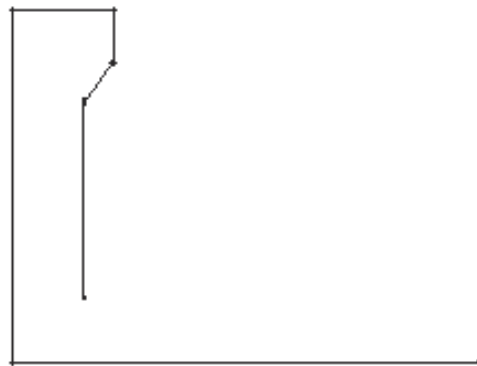

Figure 1-39 Sketch after drawing lines A to F
4. Using the left mouse button, specify the endpoint of the line as shown in Figure 1-39. You will notice that when you move the mouse, the red line extends in the vertical direction only.
5. Move the cursor upwards to size line B and using the left mouse button specify the end point of line B as shown in Figure 1-39. Now, when you move the mouse, you will notice that a red line extends in the horizontal direction only.
6. Move the cursor to the right on the graphics screen and using the left mouse button specify the endpoint of line C, see Figure 1-39.
the endpoint of line D as shown in Figure 1-39.
11. Using the left mouse button, specify the endpoint of line E, see Figure 1-39.
13. Using the left mouse button, select the endpoint of line E as the start point for line F. Move the mouse to size the line and use the left mouse button to specify the endpoint of the line. Line F is completed as shown in Figure 1-39.